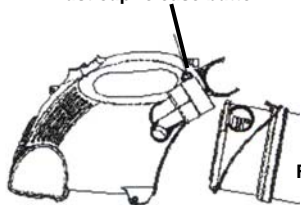

Fig.7
2. To open the Dust Cup (container), push button and remove the Dust Cup (container). (Fig. 7)